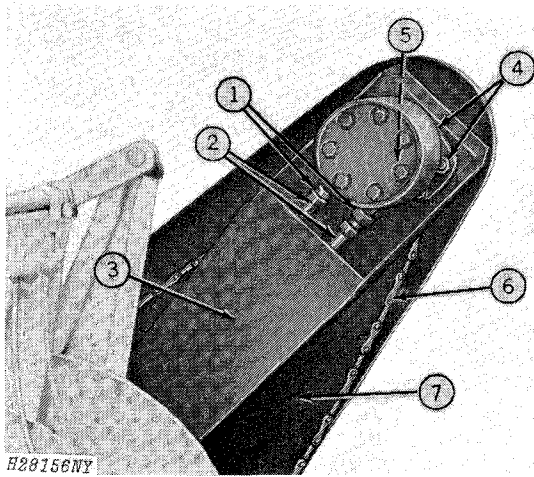

Fig. 63-Attaching Reel Drive Motor
1. Place an O-ring on each of two hose connectors and install connectors in reel motor (Fig. 63).
2. (Pickup Reel) Connect the two 13 ft. (4 m) hoses to the connectors in the reel motor (Fig. 63).
(Bat Reel) Connect the two short hoses to the connectors in the reel motor (Fig. 63).
3. Route reel drive motor hoses through mounting (Fig. 63).
4. Place steel shim between reel drive motor and mounting. Attach motor to mounting with four 1/2 x 1-1/2-inch round head bolts, lock washers, and nuts (Fig. 63). Do not tighten nuts.
5. Slide reel drive sprocket, with a 1/4 x 1-inch Woodruff key, on motor shaft (Fig. 63). Install and tighten two 5/16 x 3/4-inch square head set screws, with jam nuts, in the sprocket hub.
6. Place reel drive chain on sprockets (Fig. 63) and connect chain. Slide the reel drive motor back to tighten chain and then tighten the nuts on the four round head bolts.
7. Slide tab on reel drive shield (Fig. 63) into bracket on mounting. Attach lower end of shield to mounting with two 5/16 x 5/8-inch round head bolts and self-locking nuts.